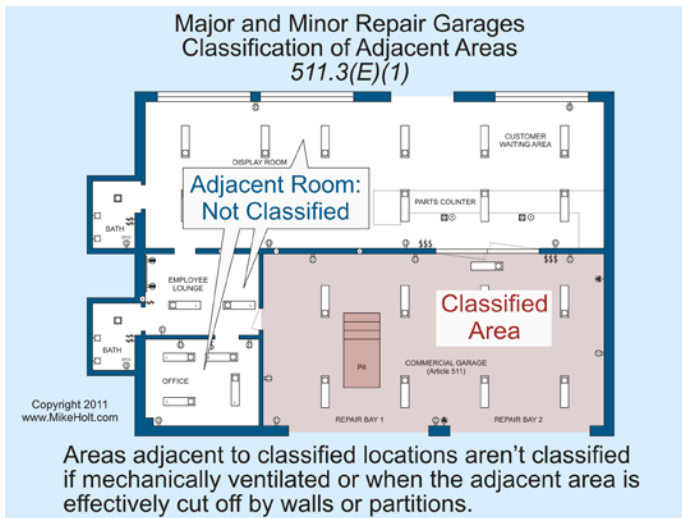

Figure 511-8
**(E) Modifications to Classification.**
**(1) Classification of Adjacent Areas.** Areas adjacent to classified locations aren't classified if mechanically ventilated at a rate of four or more air changes per hour, or when walls or partitions effectively cut off the adjacent area. **Figure 511-8**